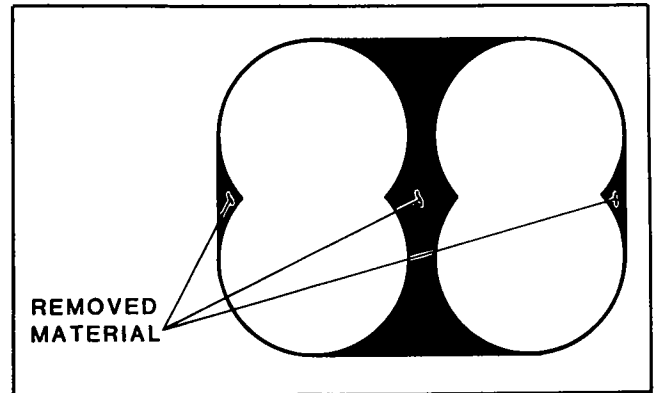

Figure 19. Hole Pattern
2. Drill holes (figure 19).
3. Remove the wood adjoining the holes as shown in figure 19 to create a rectangular opening with rounded edges.